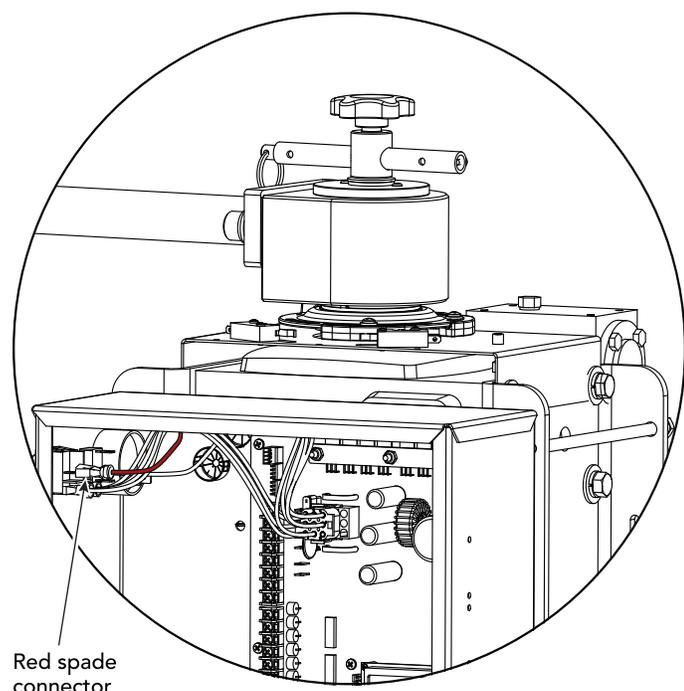

Figure 20. Connecting DC Power
3. Attach the red spade connector to the battery terminal on the DC power switch. See Figure 20.